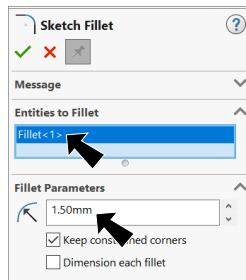

Fig. 16
Step 8. In the Sketch Fillet Property Manager set: under Fillet Parameters, **Fig. 16**